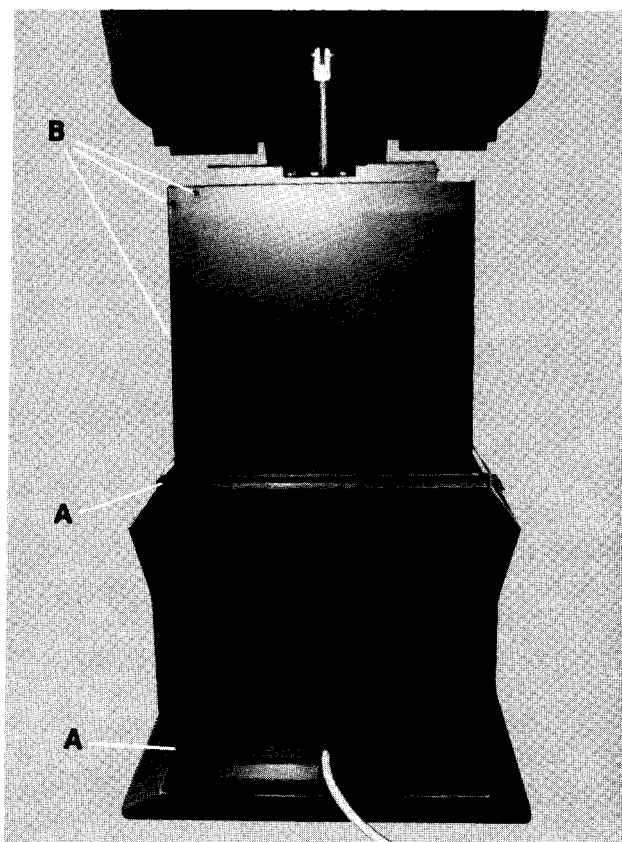

Fig. 16
- 25) Replace shroud to panel. Align holes and install (3) # 6 Phillips screws, Item C, Fig. 16.
- 1) Remove front outer shroud by removing (4) # 6 32 x 3/8" screws, Item A, Fig. 16. Lift shroud from foot switch cord.
- 2) Replace front outer shroud by placing shroud in position as shown in Fig. 16, aligning holes and installing (4) # 6-32 x 3/8" screws, Item A, Fig. 16.
- 1) Remove front inner shroud by removing (8) screws, Item B, Fig. 16.
- 2) Replace front inner shroud by placing shroud in position as shown in Fig. 16, aligning holes, and installing (8) # 6 x 3/8" screws, Item B, Fig. 16.